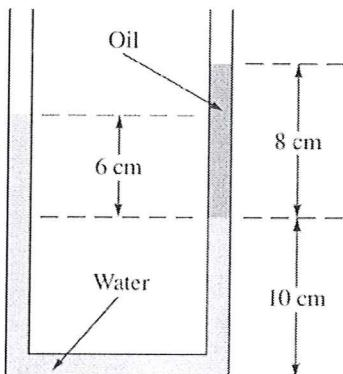

Figure 3
F. In Figure 3, both fluids are at 20°C . If the surface tension effects are negligible, what is the density of oil in SI Units?